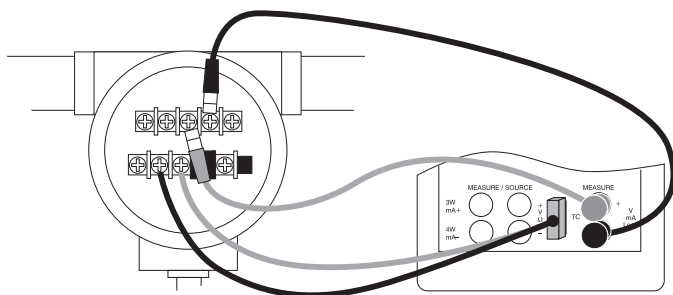

Figure 21. Calibrating a Transmitter
4. Connect the calibrator to the transmitter as shown in Figure 21.